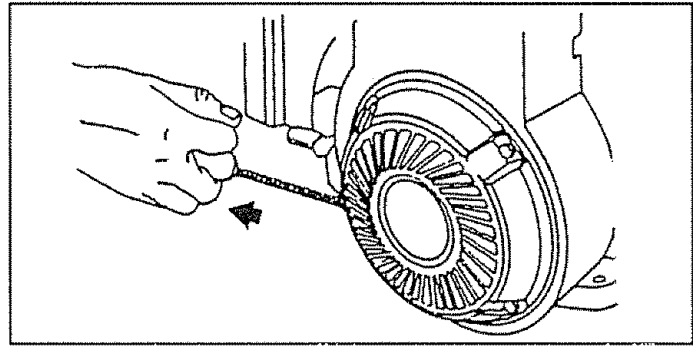

FIG. 21
- Grasp the engine starter recoil handle and pull back slowly until you feel some resistance. Then pull rope rapidly to overcome compression, prevent kickback and start engine. Let rope return slowly (Fig. 21).